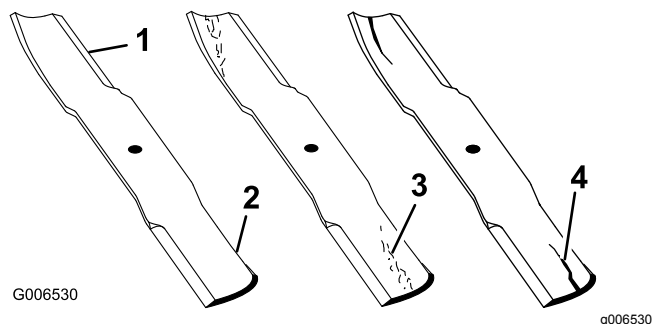

Figure 78
1. Inspect the cutting edges (Figure 78).
2. Inspect the blades, especially the curved area (Figure 78).
If you notice any damage, wear, or a slot forming in this area (Figure 78), immediately install a new blade.